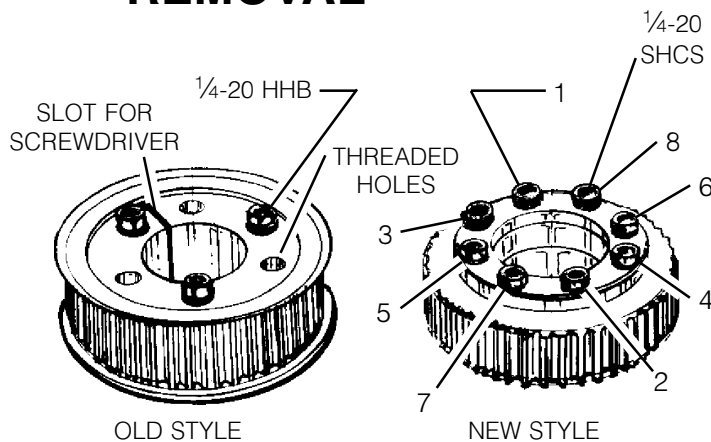

Fig. 4-1 Spindle pulleys.
6. Install **pulley** onto spindle shaft. Torque the screws in the sequence shown in Fig. 4-1 to five (5) ft.-lb.